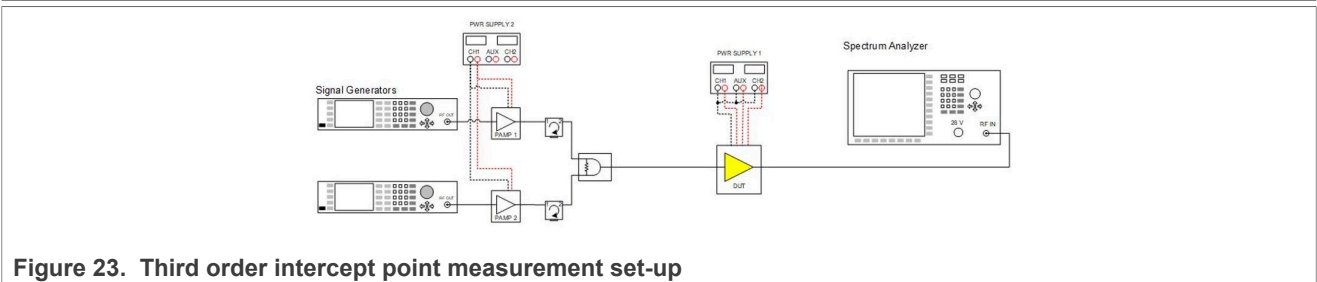

Figure 23. Third order intercept point measurement set-up
IP_{3o} is being measured using a setup like given in Figure 23.
5. Nonlinear distortion measurements IP3 can be performed with a set-up like is depicted in Figure 23. The following settings are recommended to perform the IP3 evaluation.